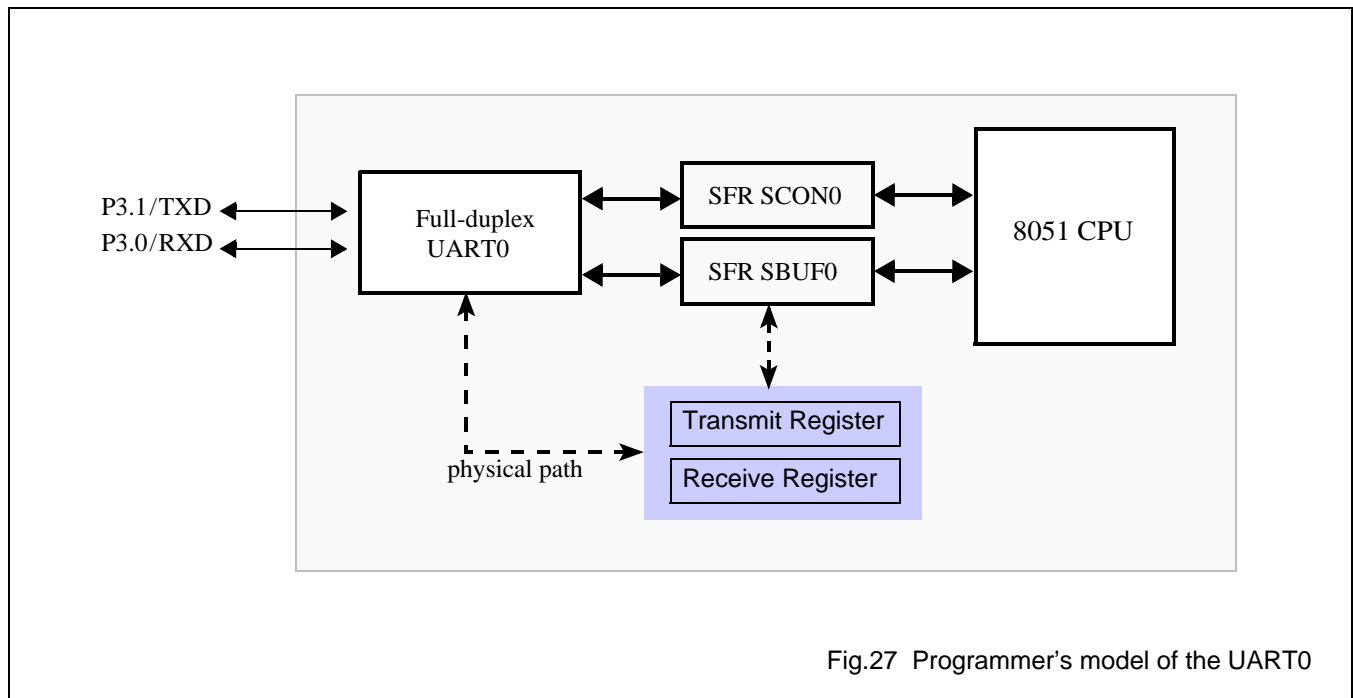

Fig.27 Programmer's model of the UART0
A programmer’s model of the UART0 is shown in Fig.27.
7. If the above conditions are met, then the UART0 moves the received data byte from the temporary Receive Register (please refer to Fig.27) to SFR SBUF0, moves the received stop bit to the RB8 bit of SFR SCON0, and set RI0 bit to HIGH, triggering an UART0 data reception interrupt. If the above conditions are not met, the received data is ignored and the receive session is aborted.